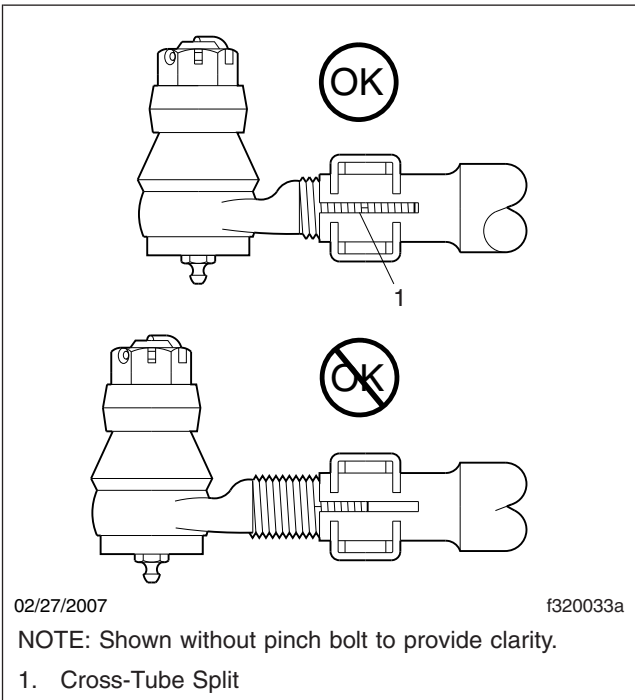

Fig. 3, Tie-Rod End Adjustment
2. The threaded portion of the tie-rod end assembly must be inserted all the way into the cross-tube split for adequate clamping. See Fig. 3. Replace the components if this cannot be done. For instructions, refer to **Group 33** of the *New Cascadia™ Workshop Manual*.